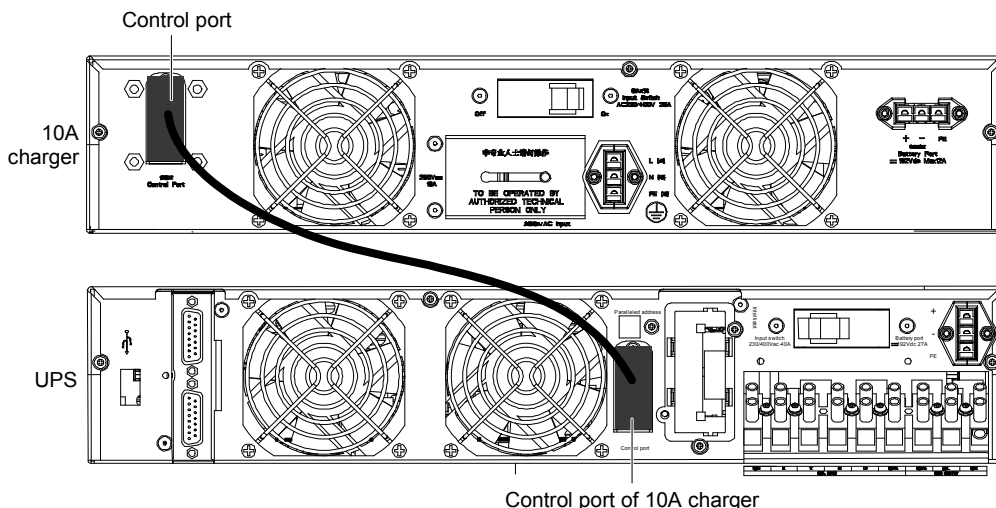

Figure 2-32 10A charger cable connection
2. Press the ON/SILENCE key for more than one second, and wait for thirty seconds, the UPS will enter the inverter standby mode automatically, the inverter indicator blinks. After the UPS has output, the inverter indicator will turn on, as shown in Figure 2-32.